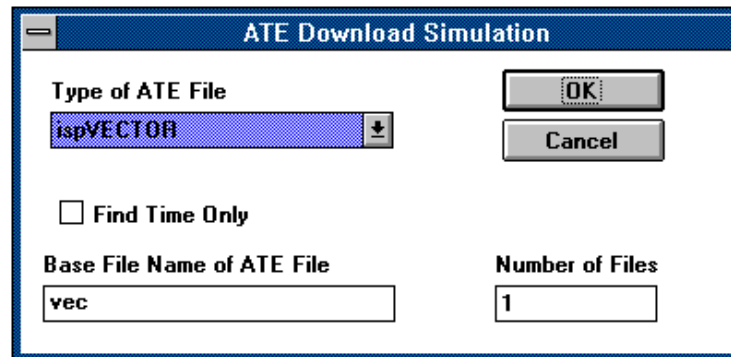

Figure 3-28. ATE Download Simulation Dialog Box
1. Select **Command** ⇒ **Simulate ATE Testing** or the **ATE SIM** icon from the ISP Daisy Chain Download menu. The ATE Download Simulation dialog box appears (Figure 3-28).